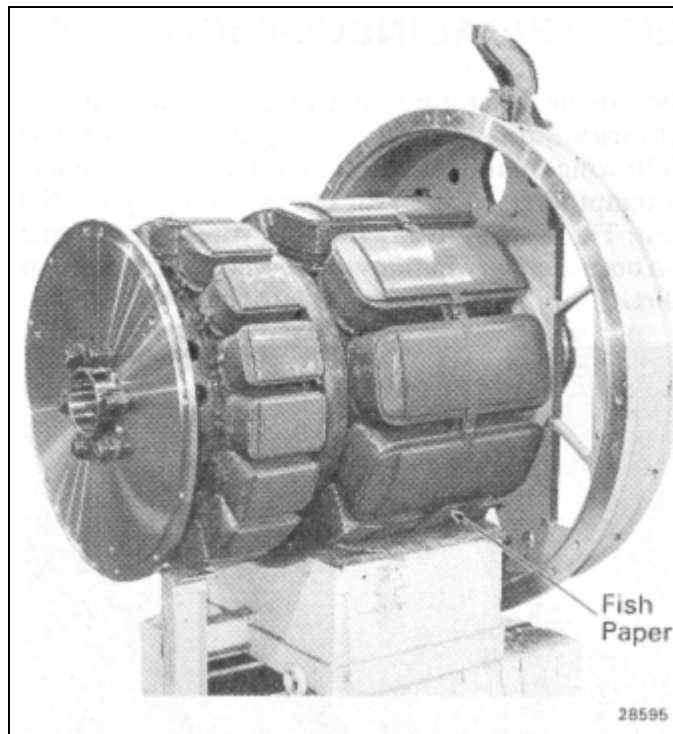

Figure 36 Rotor Assembly Removed From Stator
13. Place rotor assembly on a cradle stand, Figure 36, with strips of fish paper between rotor and cradle.